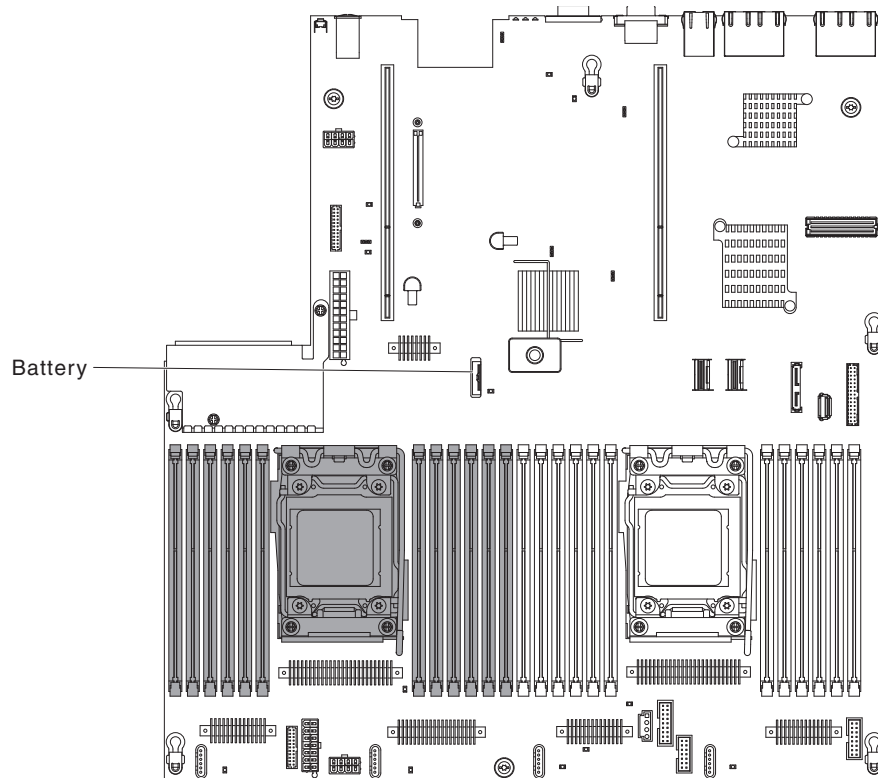

Figure 129. Location of the SAN Volume Controller 2145-DH8 CMOS battery holder
8. Locate the battery on the system board, as shown by Figure 129.